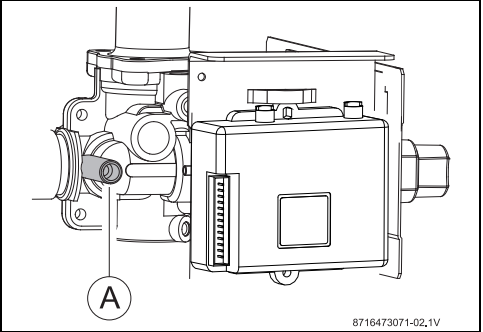

Fig. 11 Gas pressure measurement point
- ▶ Loosen the pressure test point screw on the left hand side of the gas valve (Fig. 11, [A]) and attach a manometer.